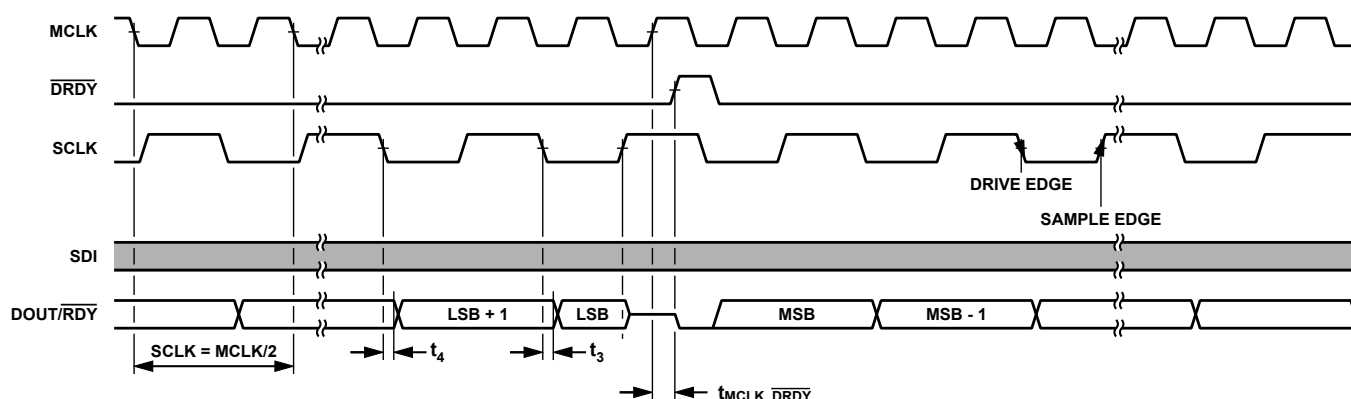

Figure 138. Recommended Interface for Reading Conversions, SPI Control, Continuous Readback Mode
The ADAQ7769-1 interface is flexible to allow the many modes of operation and for data output formats to work across different DSPs and microcontroller units (MCUs). To achieve maximum performance, the recommended interface configuration for reading conversion results is shown in Figure 138. This recommended implementation uses a synchronous SCLK to MCLK relationship.
Figure 138 shows how the recommended interface operates. The data read back spans the entire length of the $\overline{\text{DRDY}}$ period and the LSB remains until $\overline{\text{DRDY}}$ goes high for the next conversion.
2. Generate SCLK based on the $\overline{\text{DRDY}}$ or $\overline{\text{RDY}}$ timing. SCLK is high when the $\overline{\text{DRDY}}$ signal goes high and transitions on the MCLK falling edges (see Figure 138) to ensure that the LSB can be read correctly as the DOUT/ $\overline{\text{RDY}}$ output is reset on the $\overline{\text{DRDY}}$ rising edge. However, SCLK rising occurs before this transition.
Because the full ODR period is for clocking data, the $\overline{\text{RDY}}$ signal no longer flags after each LSB outputs. This signal only flags if the ADAQ7769-1 is in continuous readback mode, or if the ADAQ7769-1 does not count 32 SCLKs within $1 \times t_{\text{MCLK}}$ before $\overline{\text{DRDY}}$, as is shown in Figure 138.